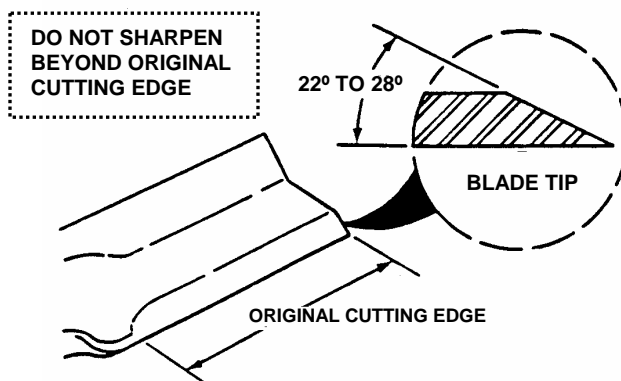

FIGURE 4.17
8. If blade is in good condition, sharpen at 22 to 28 degrees. DO NOT sharpen beyond existing cutting edge. See Figure 4.17.
1. Remove blade(s). See Figure 4.17. Replace blade(s) if it shows signs of excessive wear or damage. See chart below for replacement